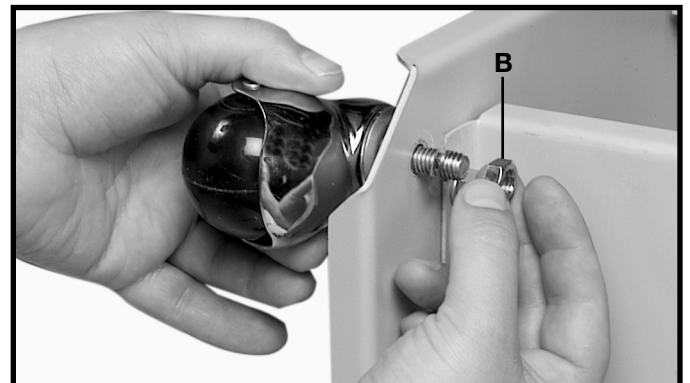

Fig. 4
3. Thread a 3/8-16 flange hex nut (B) Fig. 4 onto each of the four bolts and tighten securely.